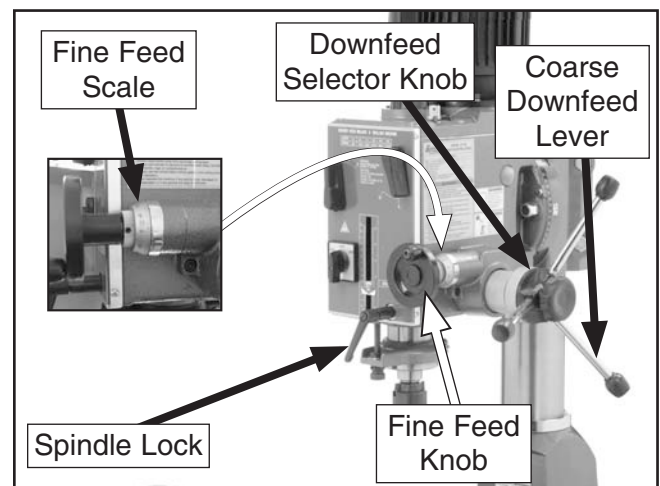

Figure 31. Spindle fine feed controls.
2. Rotate the fine feed knob to lower or raise the spindle in small increments. Observe the scale on the knob to monitor movement in thousandths of an inch (Figure 31).